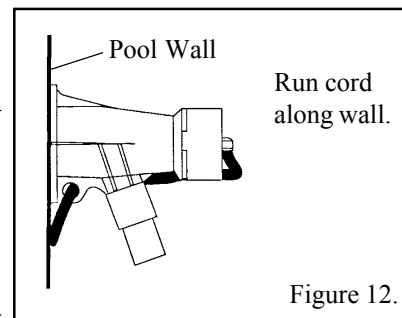

Figure 12.
4. Route cord through the cord hole in the body; see Figure 12.
- Snap cap onto end of body and turn so that the electrical cord is pointing down; see Figure 12.